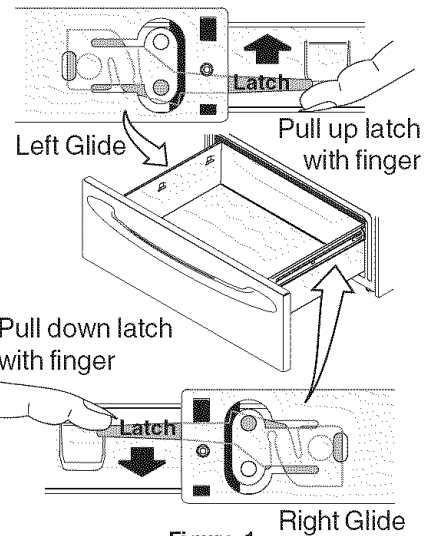

Figure 1
3. Locate glide lever on each side of drawer, pull up on the left glide lever and push down on the right glide lever (See Figure 1).